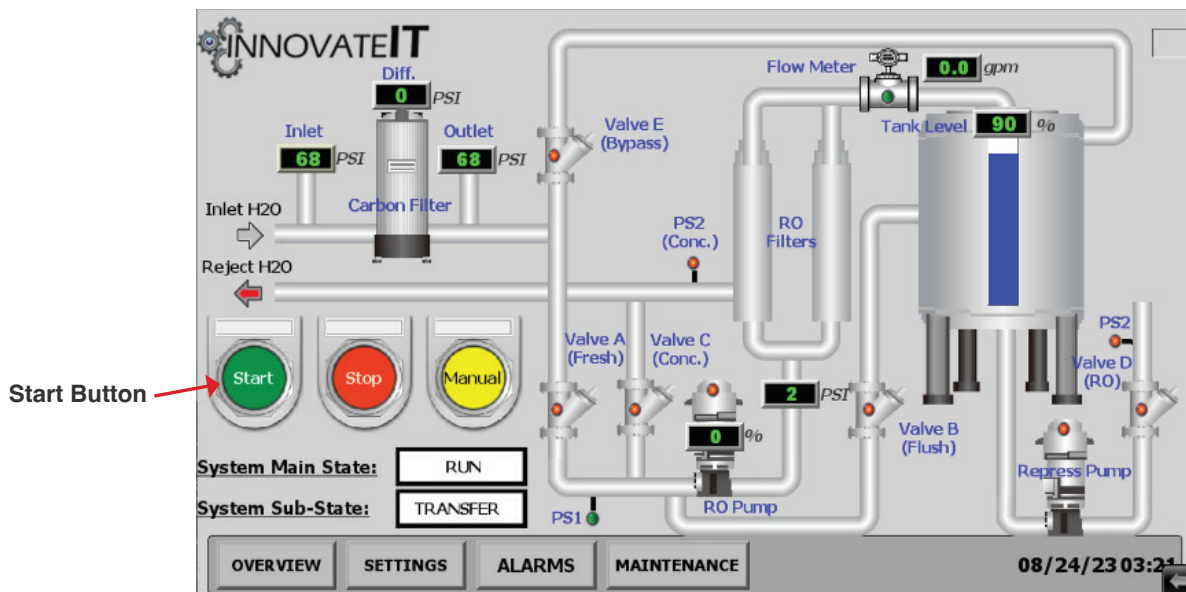

Fig. 4.1.5 - 1 - Starting the system from the HMI Overview screen
6. Return to the **OVERVIEW** screen and press the **START** button (Fig. 4.1.5 - 1). If the system registers an alarm during this process, press the **STOP** button. Navigate to the **ALARMS** page and press **RESET**. Return to the **OVERVIEW** screen and press the **START** button again. This may occur a couple of times during startup as all the air is purged from the system.